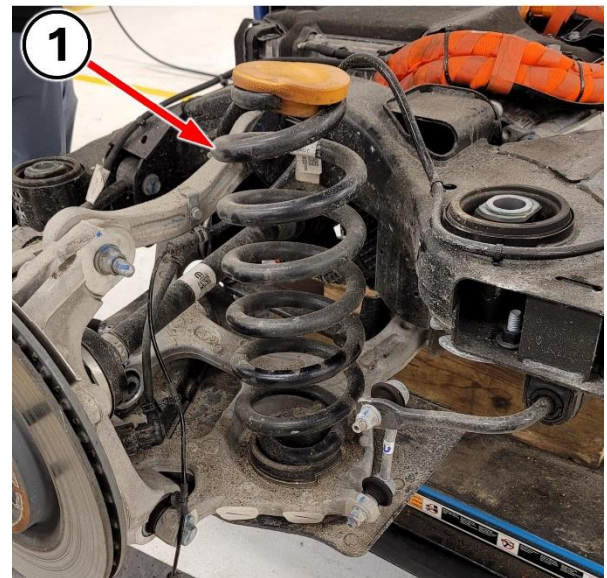

Figure 25 – Rear Coil Springs
- 59. Both right and left sides of the cradle, remove the coil springs (Figure 25).